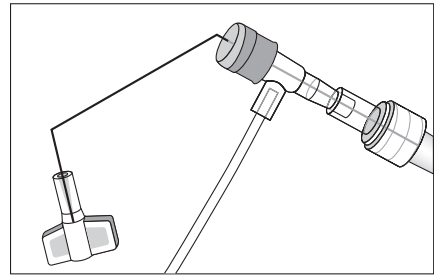

Figure 3
9. Kink proximal end of placement wire/stiffening stylet at side-port connector to minimize risk of placement wire/stiffening stylet exiting distal tip of catheter during insertion (refer to Figure 3).